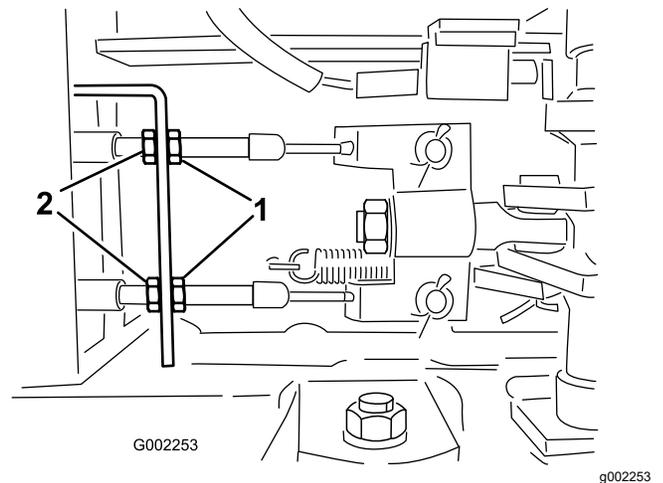

Figure 102
5. Loosen the front jam nuts on the brake cables under the front end of the sprayer (Figure 102).
6. Tighten the rear jam nuts equally until the brake pedal moves between 1 to 2 cm (1/2 to 1 inch) before you feel resistance (Figure 102).